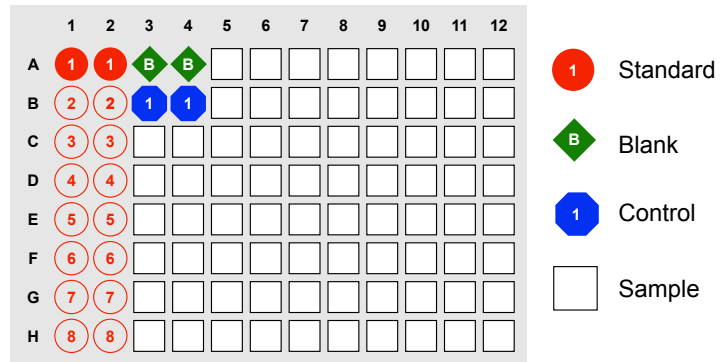

Fig. 4. Plate formatting.
3. Click **Format Plate** and format the plate according to the plate layout created in Plan Plate Layout (page 7). To modify the plate layout, follow the steps below (see Figure 4).